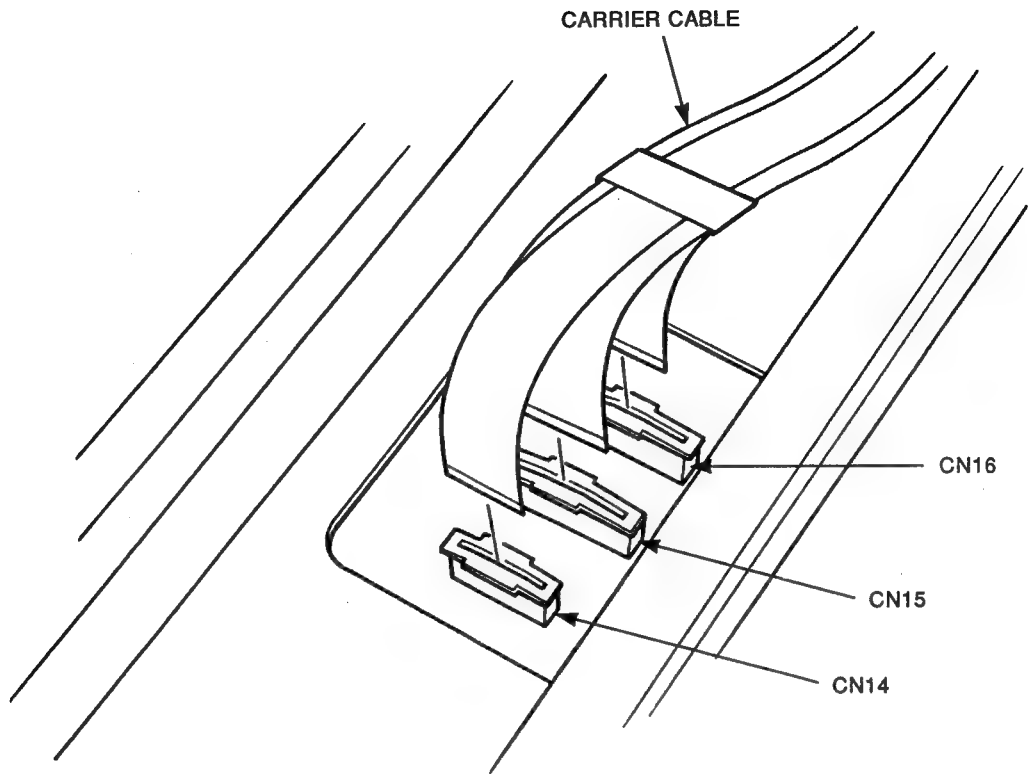

Figure 3-9 Carrier Cable Connector
3. Pull up both ends of the connector locks CN14 through CN16 (see Figure 3-9).